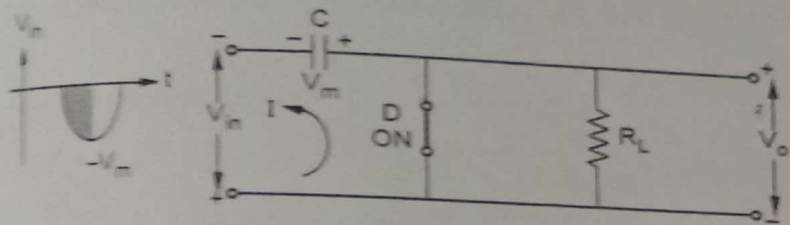

Fig. Q.50.2
• During the first quarter of negative half cycle of the input voltage V_{in} diode D gets forward biased and almost instantaneously capacitor gets charged equal to the maximum value V_m of the input signal V_{in} with the polarities as shown in the Fig. Q.50.2.